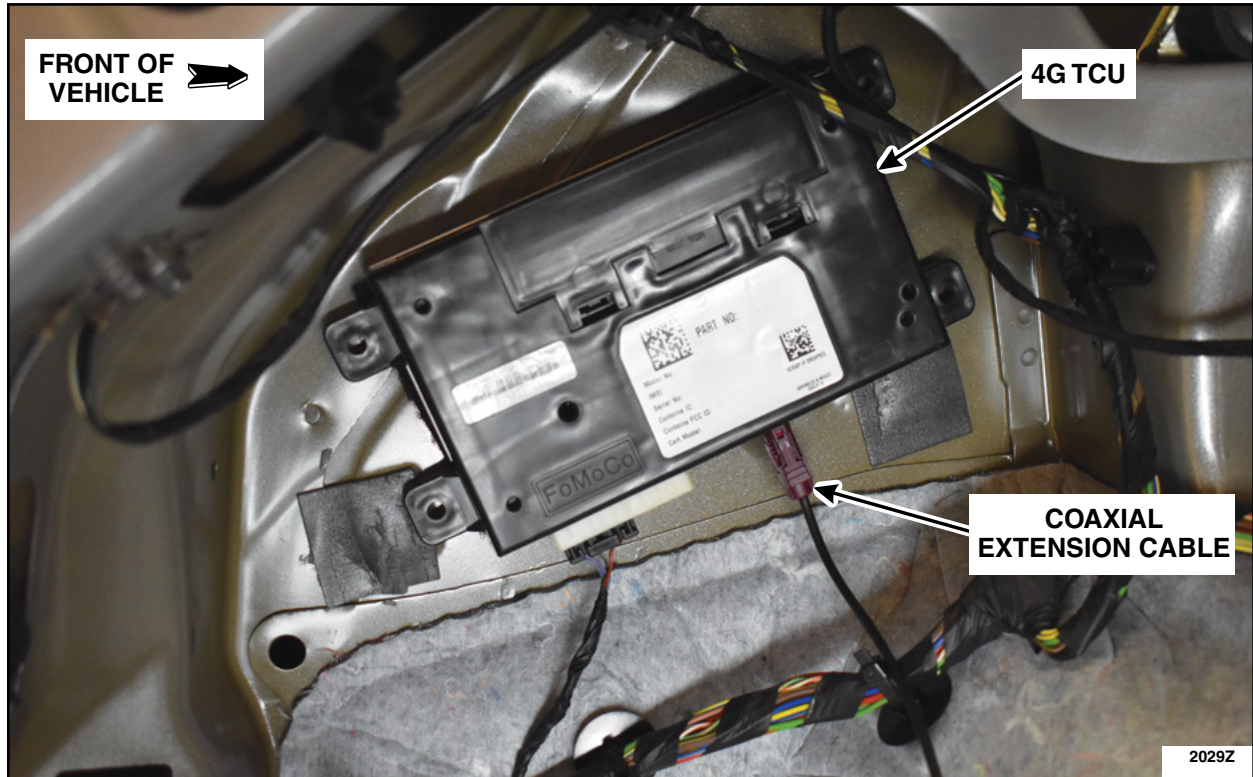

FIGURE 12
13. Connect the coaxial extension cable to the 4G TCU. See Figure 12.